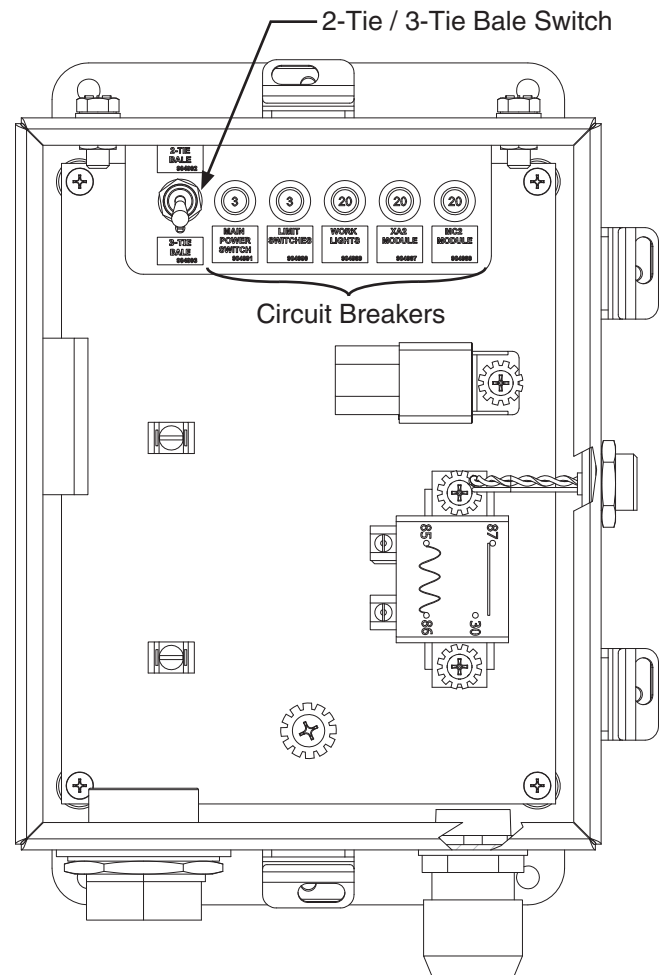

Figure 13 - Junction Box
1. Locate the switch inside the Junction Box (see Figure 13).